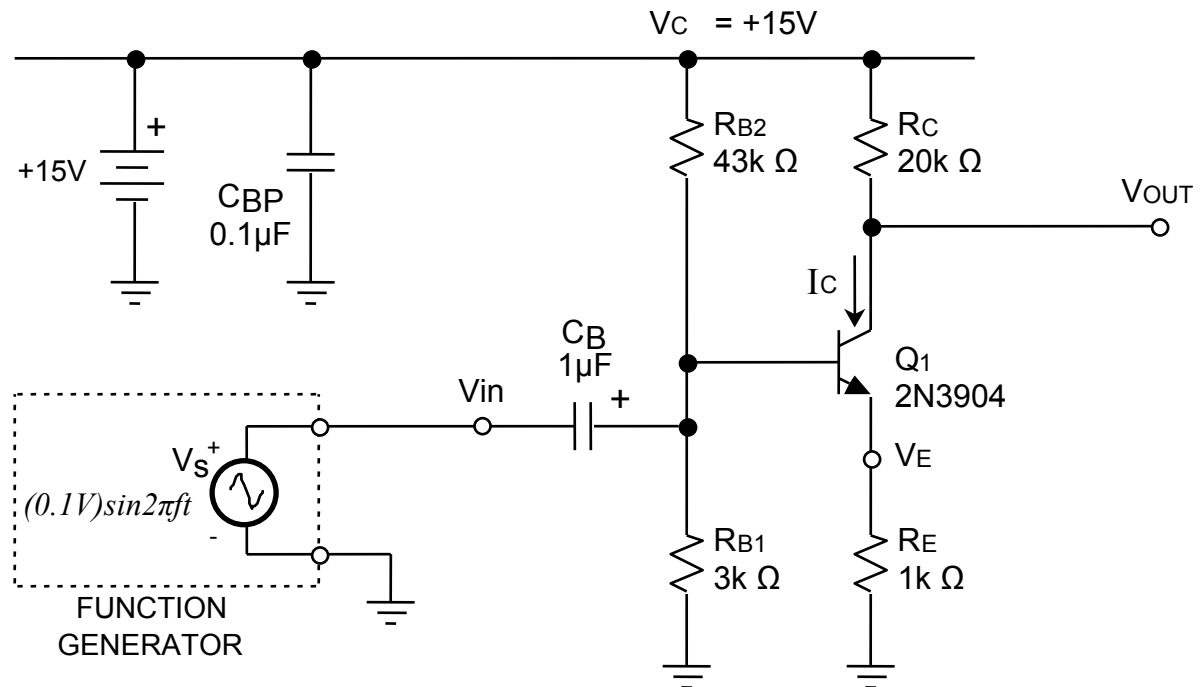

Figure 6-3.
- P5. Simulate the circuit of Figure 6-3 using *ac analysis* and plot the frequency response of the amplifier (ie. gain vs. frequency). Use a logarithmic scale with the gain expressed in decibels (dB) and the frequency in Hz. NOTE: $\text{Gain}_{\text{dB}} = 20\text{LOG}(|V_{\text{OUT}}/V_{\text{IN}}|)$. Confine the frequency range from 10Hz to 100MHz.
W6. Plot the frequency response (Bode Plot) of the circuit of Figure 6-3 and compare the actual cut-off frequency to your simulated results.